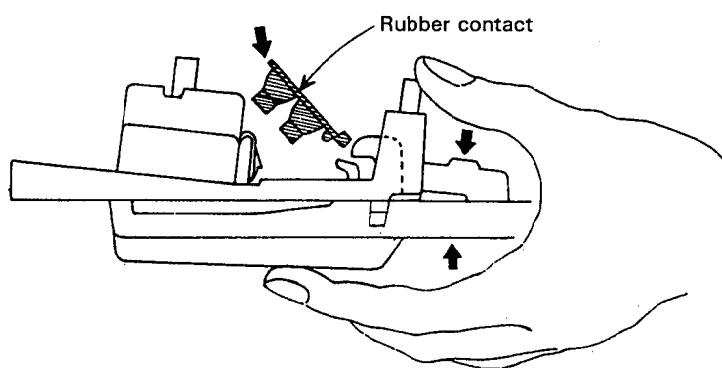

Fig. 8
- 8-2. Fitting The Rubber Contact And MK Circuit Board (Fig. 8, 9, 10)
Fit the rubber contact while pushing the keys up as shown in figure 8.